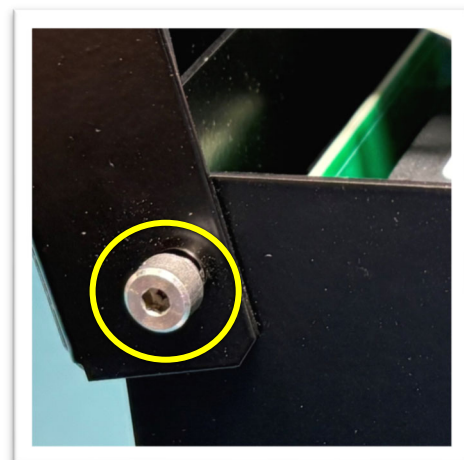

Figure 2.8
- 13) Remove the door hinge screws (x2) on the left-side (top and bottom) of the panel, using the Allen key (2.5 mm) or Torx driver (T15). (See Figure 2.8; yellow)